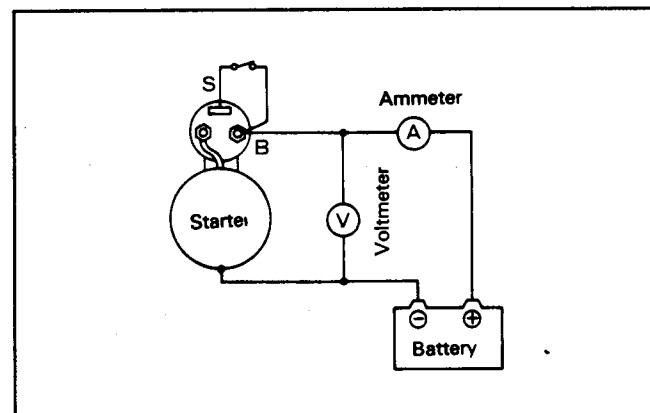

Figure 22
1. Connect a 12 volt battery, ammeter and voltmeter to the starter as shown (Fig. 22).